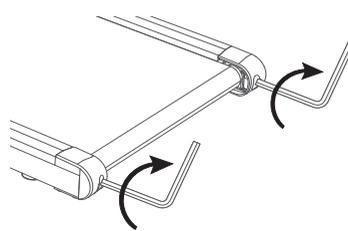

Figure.3
2. Using the hex tool, turn both idler roller screws clockwise **1/2** of turn(refer to figure 3).